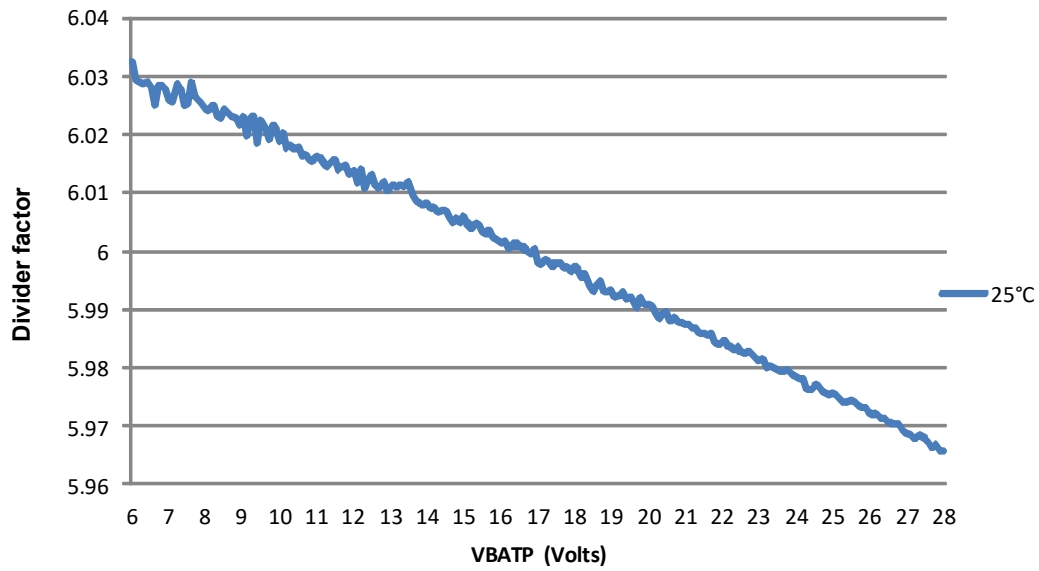

Figure 5. Divide by 6 coefficient accuracy
23. Calibration of divider ratio can be done at  $V_{BAT} = 12\text{ V}$ ,  $25\text{ }^\circ\text{C}$  to achieve a higher accuracy. See Figure 5 for AMUX offset linearity waveform through the operating voltage range.